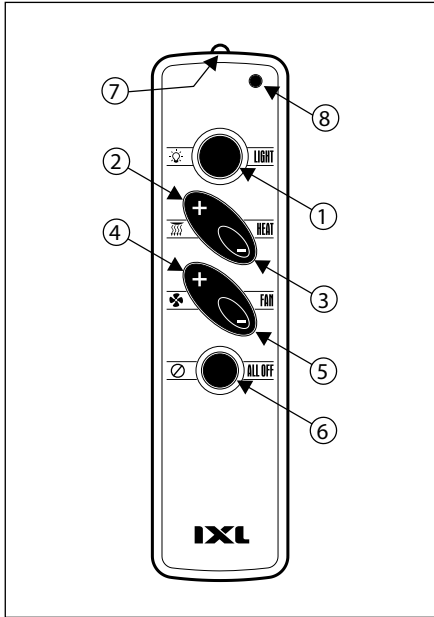

Fig. 31
All functions are controlled by the Smart Switch (Fig. 31), a battery powered wall mounted remote unit that sends an Infrared (IR) signal to a receiver mounted to the ceiling. Subsequent signals go to the Control Unit mounted on the top of the Tastic Unit.